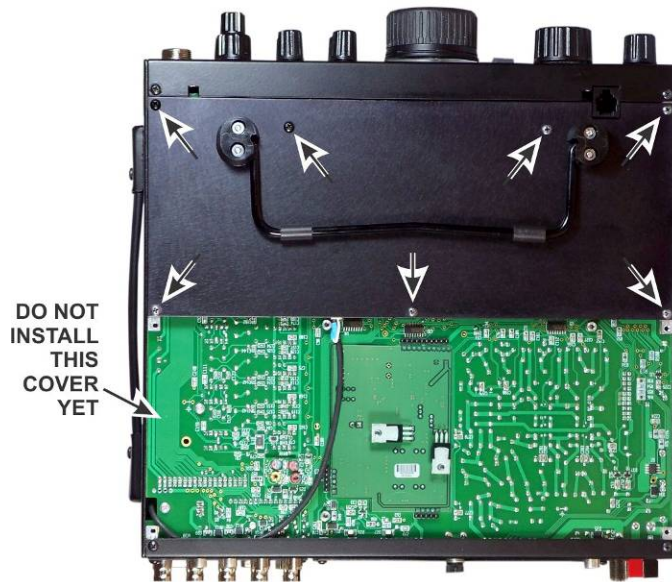

Figure 97. Installing Bottom Cover Forward Section.
Turn the K3S over so the bottom is exposed. Position the forward section of the bottom cover with the feet and bail toward the front as shown in Figure 97. Attach the cover with seven 3/16" (4.8 mm) black pan head screws (SS) at the positions shown. Do not use washers.